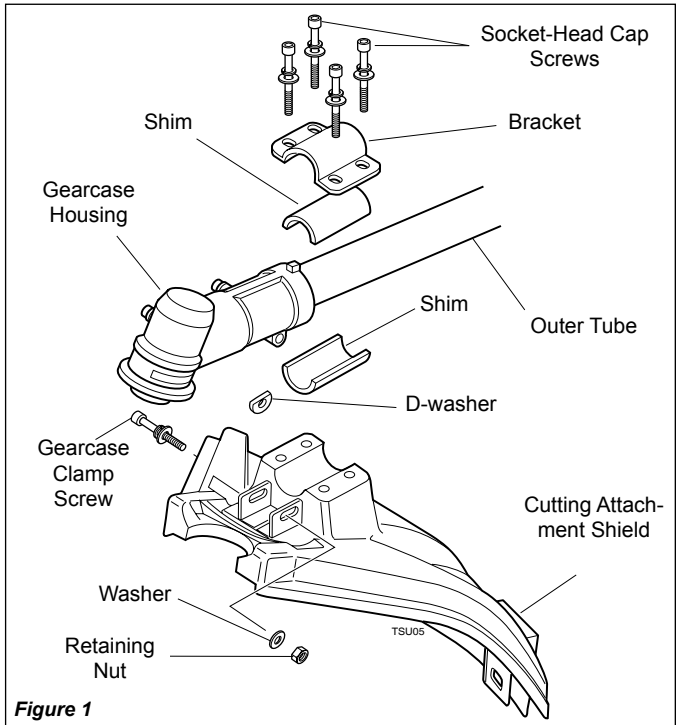

Figure 1
1. Remove the four socket-head cap screws, bracket and two shims. See Figure 1.